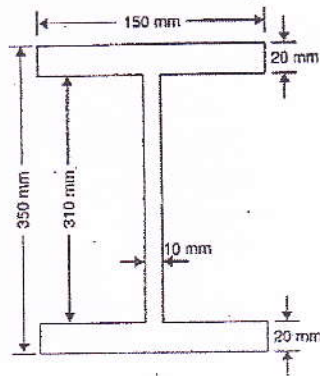

Fig.6.
- b) An I section beam $350\text{ mm} \times 150\text{ mm}$ has web thickness of 10 mm and flange thickness of 20 mm as shown in fig.6. If the shear force acting on beam is 40 kN . Find the maximum stress developed in the section. Also draw stress distribution along the section.